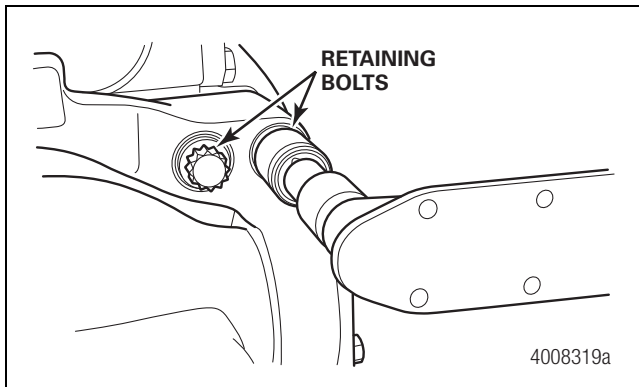
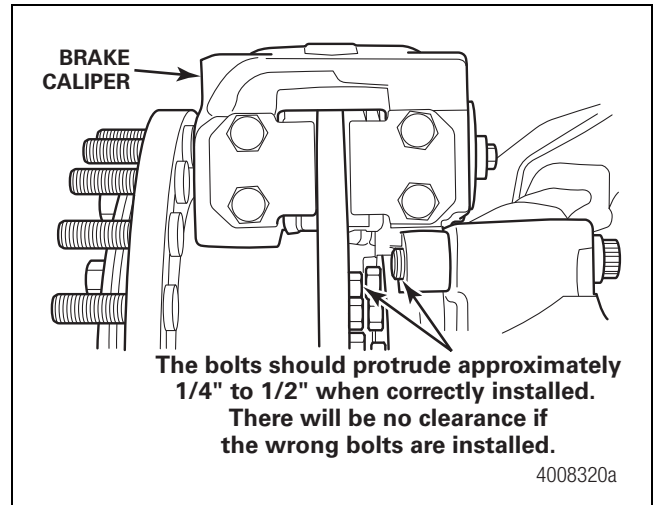

Figure 17.7
Figure 17.8
2. Install washers on the caliper mounting bolts. Install the two longer caliper mounting bolts into the upper holes and the two shorter caliper mounting bolts into the lower holes. Tighten the mounting bolts to the torque specified in Section 20. Figure 17.7 and Figure 17.8.